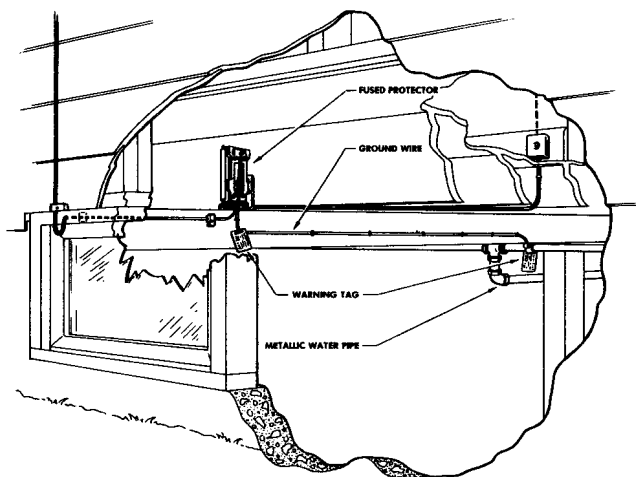

FIGURE 3. Ground Wire Run—Fused Protector
1.09 If a fused protector must be used, the length of drop wire indoors should be as short as possible, no longer than five feet. See Figure 3.